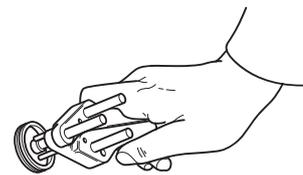

Fig 31.
- b Close the tool. ⇒ Fig 31. \(□ E-62\). The seal must form a reniform (kidney shape).